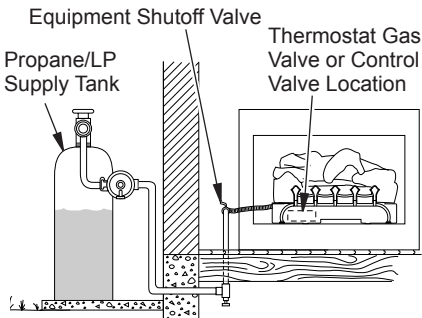

Figure 15 - Checking Gas Joints (Propane/LP Gas Only)
shutoff valve (see Figure 15 or 16). Apply a noncorrosive leak detection fluid to all joints. Bubbles forming show a leak.
4. Check all joints from equipment shutoff valve to thermostat gas valve (see Figure 15 or 16). Apply a noncorrosive leak detection fluid to all joints. Bubbles forming show a leak.